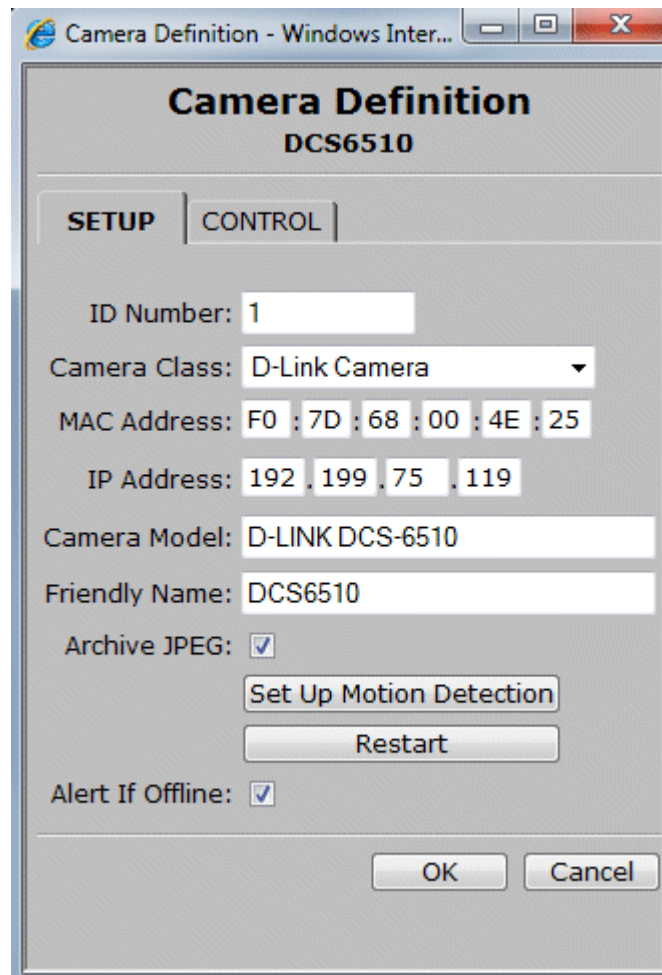

Figure 4-5. Motion Detection Using The Camera Definition Page
You can set up motion detection using the ViewWatch Camera Definition Page. See Figure 4-5.
- Figure 4-5. Motion Detection Using The Camera Definition Page 15